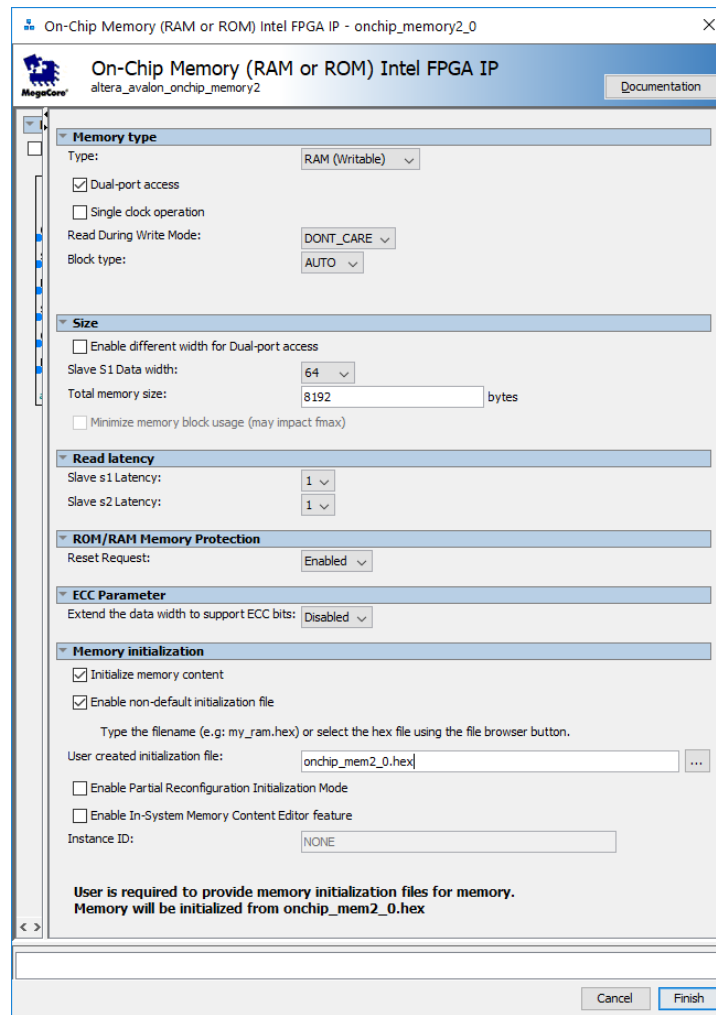

Figure 7. Settings for On-chip Memory.
- Check the check box of **Enable non-default initialization file** and set the **User created initialization file** to *onchip_memory2_0.hex* as shown in Figure 7.